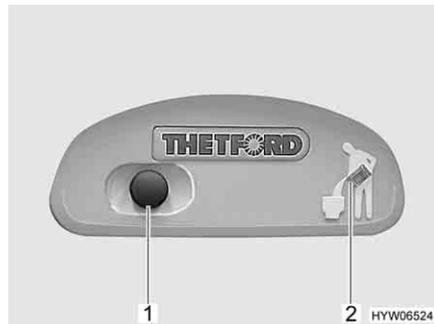
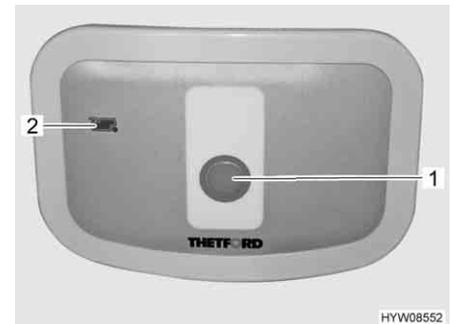

Fig. 257 Flush button/indicator lamp Thetford toilet
Fig. 258 Flush button/indicator lamp Thetford toilet (alternative)
- For flushing, press the blue flush button (Fig. 257,1 or Fig. 258,1).
The indicator lamp (Fig. 257,2 or Fig. 258,2) lights up whenever the sewage tank has to be emptied.